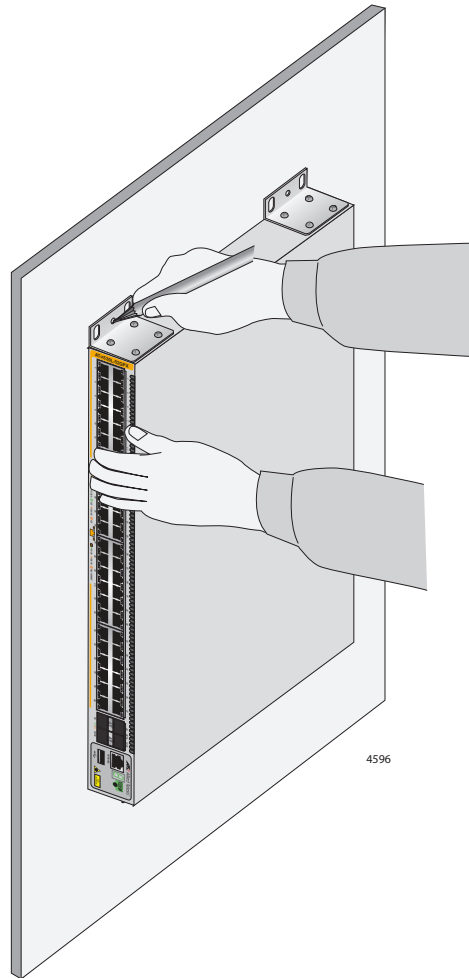

Figure 78. Marking the Locations of the Bracket Holes on a Concrete Wall
3. After attaching the brackets, have another person hold the switch on the concrete wall at the selected location for the device while you use a pencil or pen to mark the wall with the locations of the screw holes in the brackets (one screw per bracket). Refer to Figure 78 on page 138.